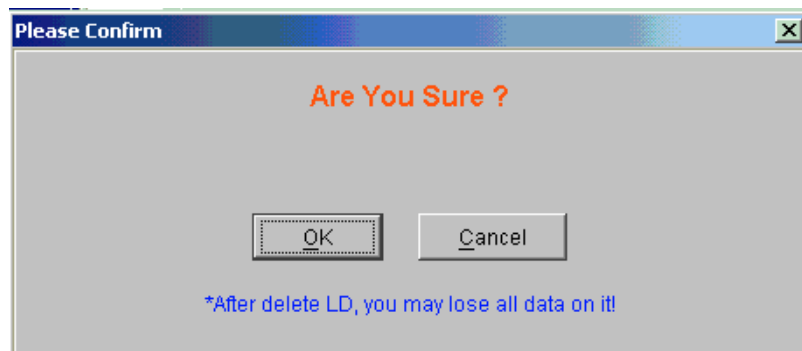

Figure 8-36: Confirm LD Delete
Step 5. Once the LD has been selected, and if you are certain that you wish to delete the LD, press the “OK” button. A confirmation screen similar to the one in *Figure 8-36* will appear. If you are still certain that you wish to delete the LD press the “OK” button. If you are not sure, click the “Cancel” button.